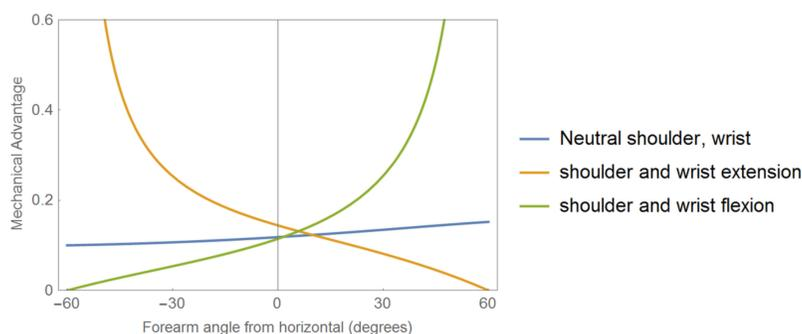

Fig 4. Mechanical advantage as a function of forearm angle for three fixed shoulder and wrist positions.
- Students interpret the result in Fig 4 (at right) to see that a simple extension to the lever model recovers the expected behavior.
During a natural curling motion, the shoulder and wrist also bend. In Figure 4, the mechanical advantage is plotted for three sets of fixed shoulder and wrist angles. To compare “apples to apples”, the x-axis is the orientation of the forearm $\theta = 90^\circ - (\alpha + \beta)$.